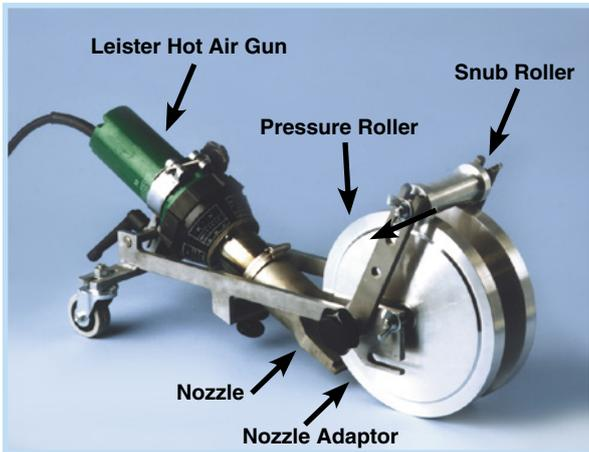
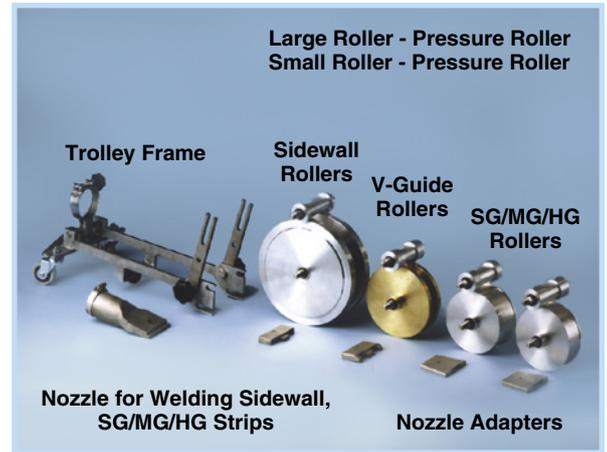

Fig. 1
Fig. 2
These instructions are for welding VOLTA Sidewall strips to VOLTA and other Flat belts using the VOLTA Sidewall Trolley and Leister Hot Air Gun (Fig. 1) and appropriate adapters (Fig. 2). The VOLTA Sidewall Trolley is also used to weld other strips (SuperGrip, MultiGrip, HighGrip) to VOLTA Flat belts.
2. Mount the pressure and snub rollers (see figure 1 on page 1).